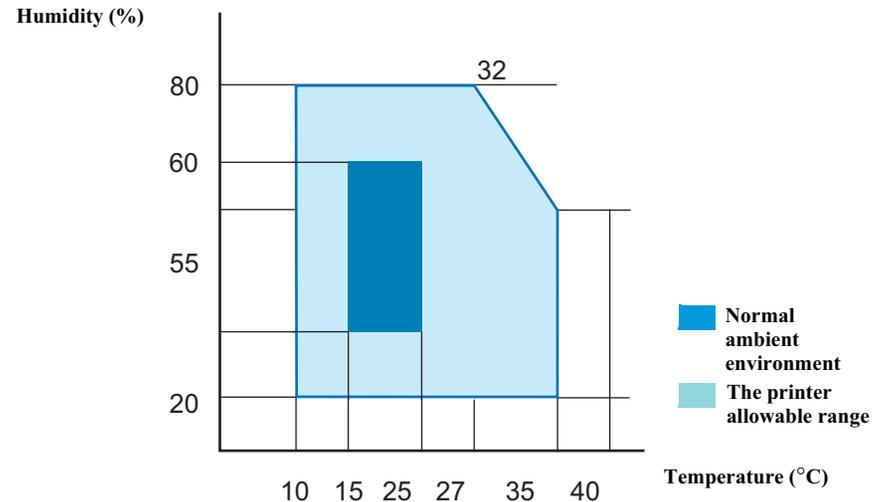

Figure 1-2. Temperature/Humidity Range
**2*: The combined temperature and humidity conditions must be within the blue-shaded range shown in Figure 1-2.